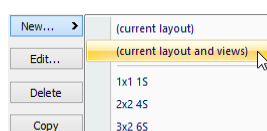

Figure 185 – Current layout and views item
3. Select the **(current layout and views)** item in the displayed menu (see Figure 185).